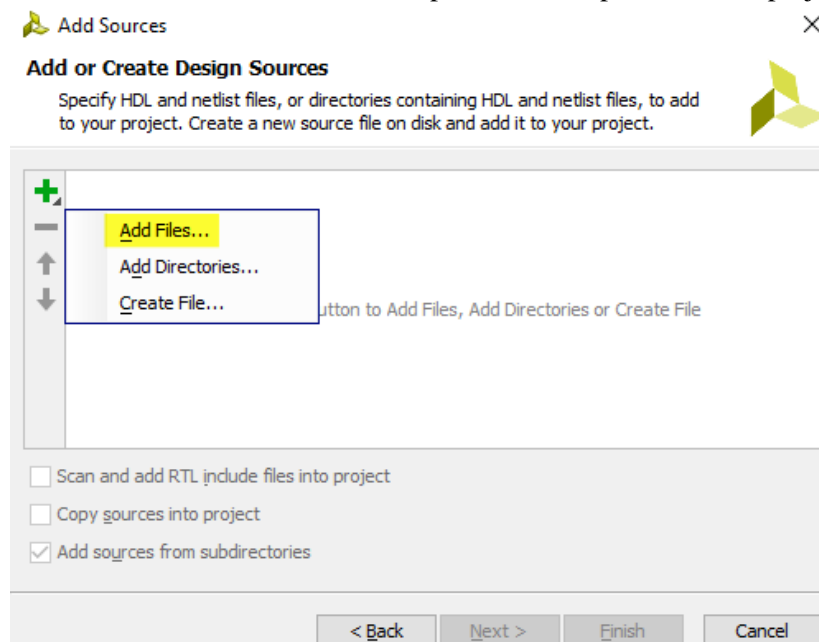

Figure 18. Adding a source file
20. We want to reference the original source file that we’ve saved in directory “M:\02138\LabN\src” so, make sure that the box “Copy sources into project” is **NOT** selected. Next, click on the green plus symbol and select “Add file...” as shown in Figure 18. Then go to the directory “M:\02138\LabN\src” and select the “circuit1.vhd” file. Next click OK. In the “Add or Create Design Sources file” click Finish. You have now completed the setup of a Vivado project.